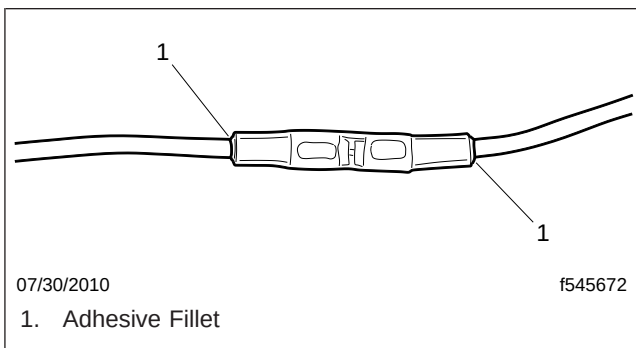

Fig. 3, Heated Solder Sleeve with Solder Band Melted into the Splice
7. Heat the splice using a heat gun rated at 250°F (121°C) until the sleeve has completely shrunk against the wire and the solder flows into the barrel connector. A small fillet of adhesive may be visible at the ends of the connector. See Fig. 3.